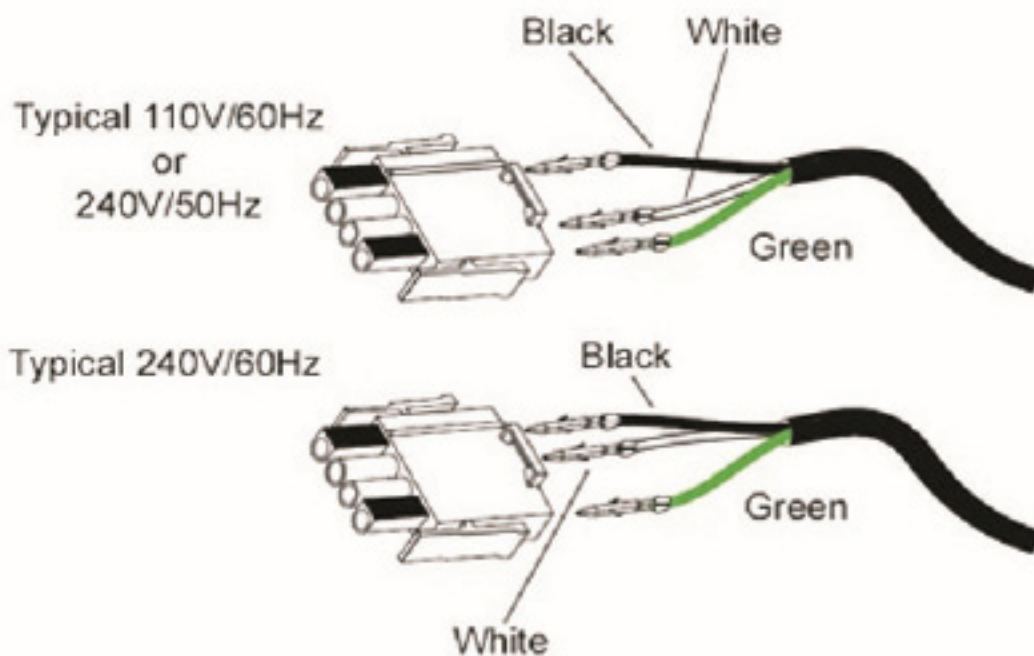

Figure 2
- **Connect the Aquatic 2 cord to the mating connector(s) on the control box according to the provided A2Z Ozone™ wiring diagram in Figure 2.**